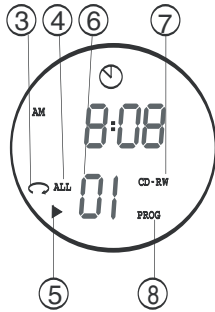

Fig 2
2. In the CD mode, refer to figure 2.